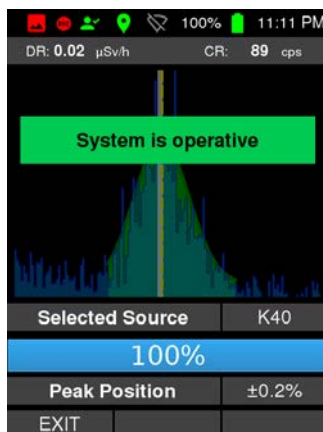

Figure 138: Easy calibration finished
7. Wait until the RAD EAGLET-R displays "System is operative" (Fig. 138, p. 130).